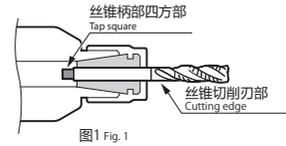

图1 Fig. 1
- 请将丝锥的柄部插入超出夹套内径的长度(图1)。
由于ER8弹簧夹套无四方孔，这是导致弹簧夹套破损、握持力低、精度低的原因(图1)。
- 请不要用夹套夹住丝锥的切削刃部。这样会导致精度降低(图1)。
- Insert the shank of the tap beyond the collet's inner diameter length (Fig. 1).
The ER8 collet does not have a square hole, which can cause damage to the collet, reduce chucking force, and reduce accuracy (Fig. 1).
- Do not chuck the cutting edge of flute to the tap. This may decrease the accuracy (Fig. 1).